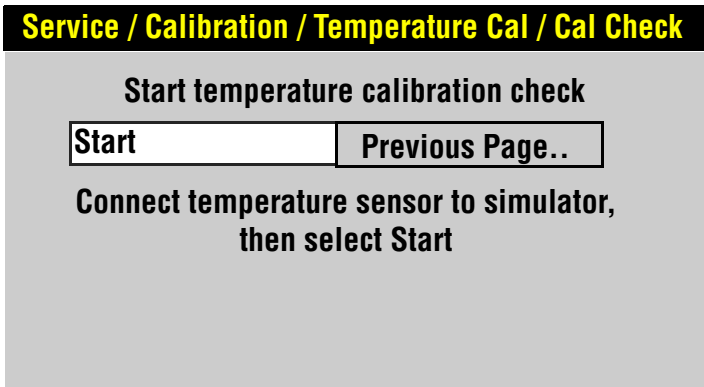

Figure 5.15—Starting calibration check
5. To initiate Temperature Calibration Check, select Cal Check from the Service / Calibration / Temperature Cal menu. The screen shown in Figure 5.15 appears.
- 6. Connect the temperature sensor to the device and select the Start button. The screen shown in Figure 5.15 appears.